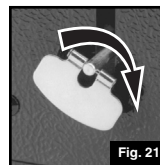

Fig. 21
- Shut off AUXILIARY BURNER by closing AUXILIARY VALVE. (Fig. 21)